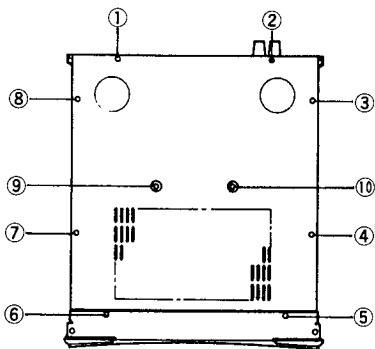

Fig. 2
1. Remove screws ① to ⑩, and then remove the bottom cover in Fig. 2